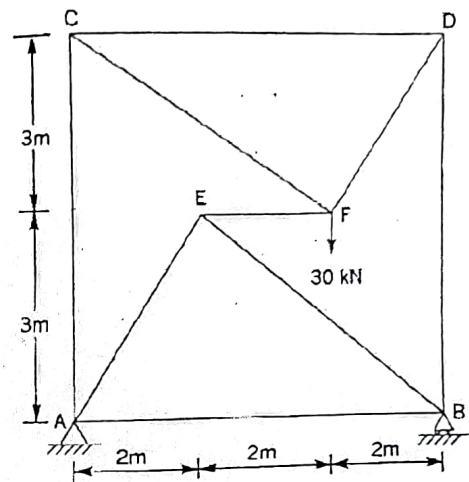

Figure 5
- Q4. Find the forces in the members of the loaded structure shown in Fig. 5